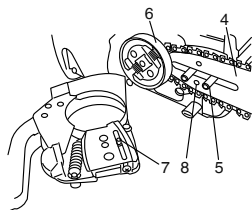

Fig. 3
3. Install the chain bar (4) onto the bolts (5), then push it toward the sprocket (6) as far as it will go. Make sure that the boss of chain tension adjust bolt (7) fits into the hole of the bar (8). (Fig. 3)
Slightly move the bar back and forth and make sure the chain tension boss (7) fits into the hole (8) in the bar properly. (Fig. 3)